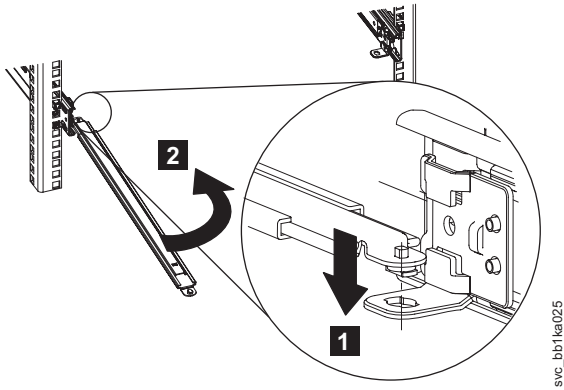

Figure 16. Rack rear: Attaching the SAN Volume Controller 2145-CF8 cable-management support arm
1. At the rear of the rack, connect one end of the support arm, as shown by **1** in Figure 16 on page 26, to the same slide rail to which you plan to attach the cable-management arm so that you can swing the other end of the support arm **2** toward the rack.